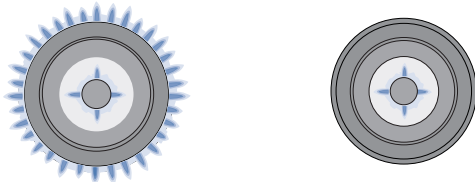

Figure 11: Burner at highest (L) setting and simmer (R)
2. Visually check that both inner and outer rings for the Double Ring burner are lit (Figure 11). Once lit, turn the control counterclockwise and adjust to the desired flame size.
3. When adjusting for a low or simmer type flame setting, continue to rotate the control knob counterclockwise from HI setting towards LO (Figure 12). When the knob is turned close enough towards the LO setting, the flame for the outer ring portion of the burner will turn off leaving only the inner burner with a flame for simmering (Figure 11). Make any further flame adjustments as needed..